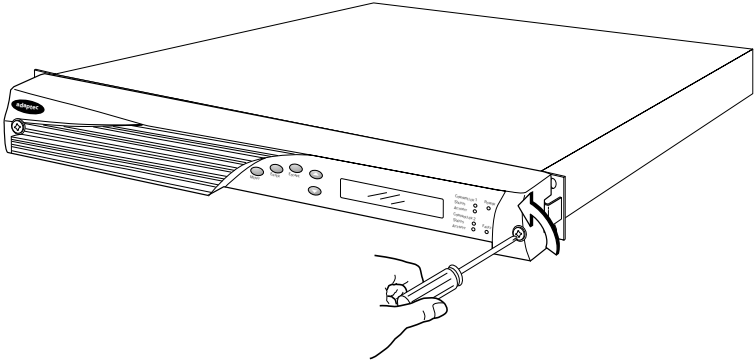

Figure 3-1 Unlocking the Front Bezel
- 1 Unlock the front bezel by turning the screws one-quarter turn to the left. See Figure 3-1.